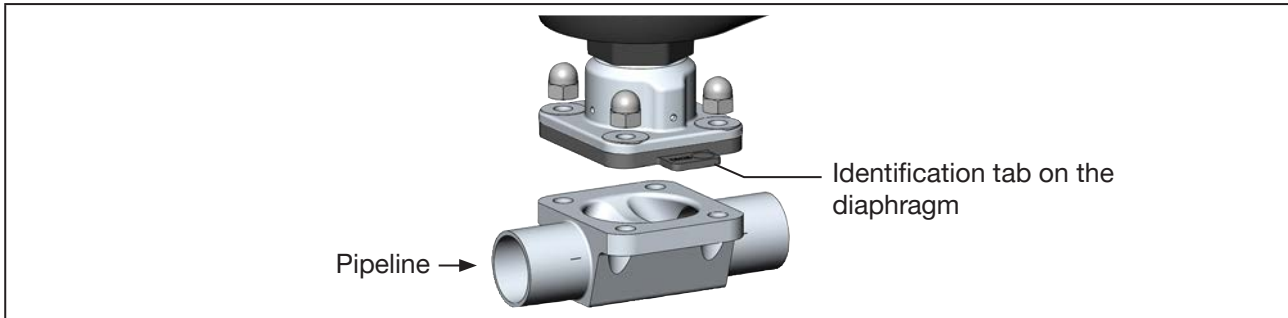

Figure 63: *Aligning the diaphragm (example 2-way body)*
The identification tab on the diaphragm must protrude out of the valve body at right angles to the longitudinal axis of the pipeline (see “Figure 63”).
→ Align diaphragm. The identification tab on the diaphragm must protrude out of the valve body at right angles to the longitudinal axis of the pipeline (see “Figure 63”).
- ⚠ Before installing the actuator, check whether the diaphragm is free of damage and correctly aligned. The mark tab of the diaphragm must protrude from the valve body at a right angle to the longitudinal axis of the pipeline (see “Figure 63”).